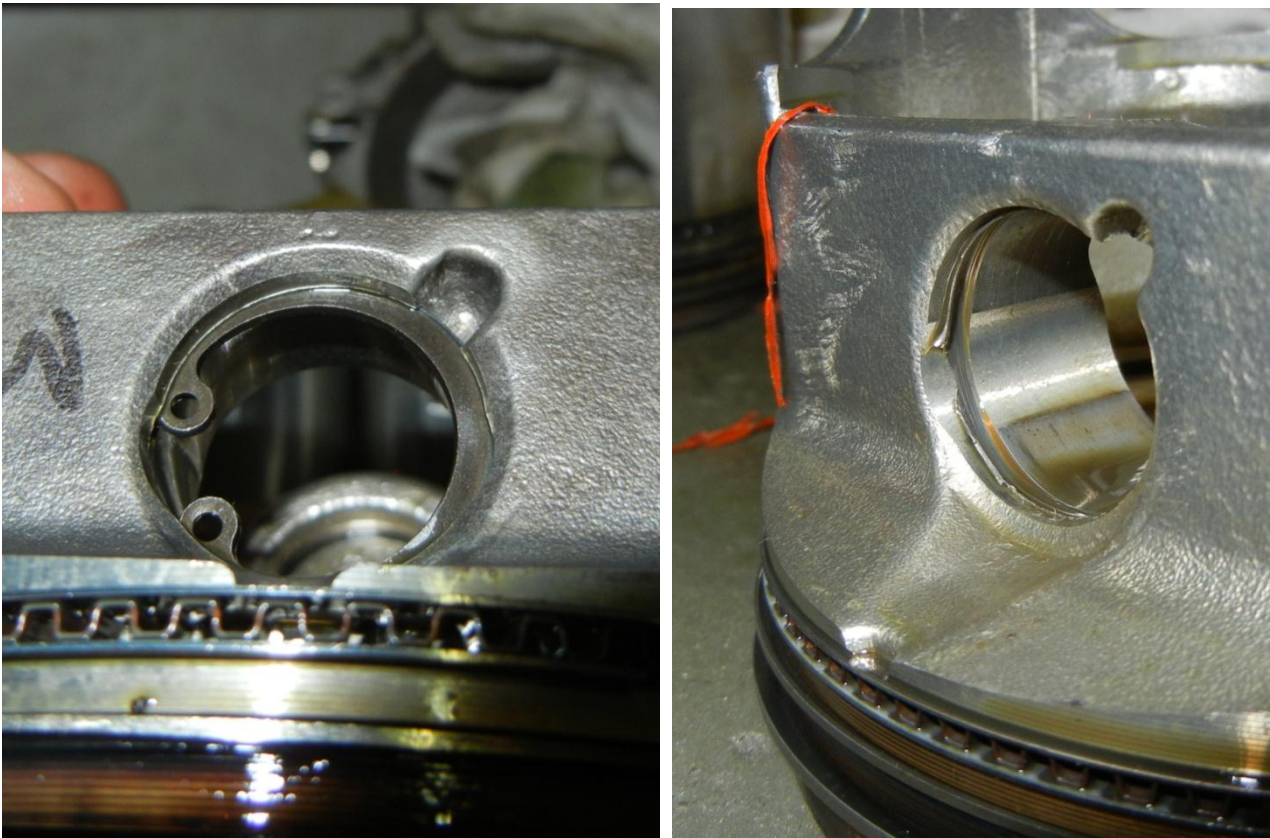

Figure 3 – Worn Circlip Grooves.
- Thoroughly inspect pistons for wear or damage before installing new clips. Figure 3 shows two pistons with worn grooves. Worn pistons must not be re-used.